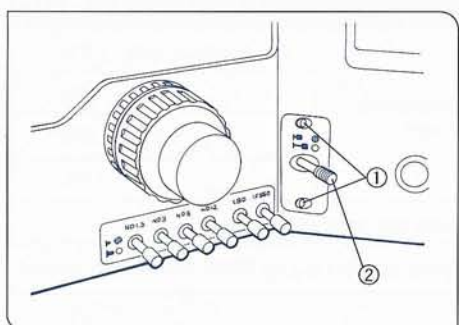

Fig. 26
(Figs. 26, 27)
1. Using the Allen screwdriver, loosen the filter clamping screws ①.
2. Pull out the optional filter assembly by pulling at the filter lever ②. (Fig. 26)